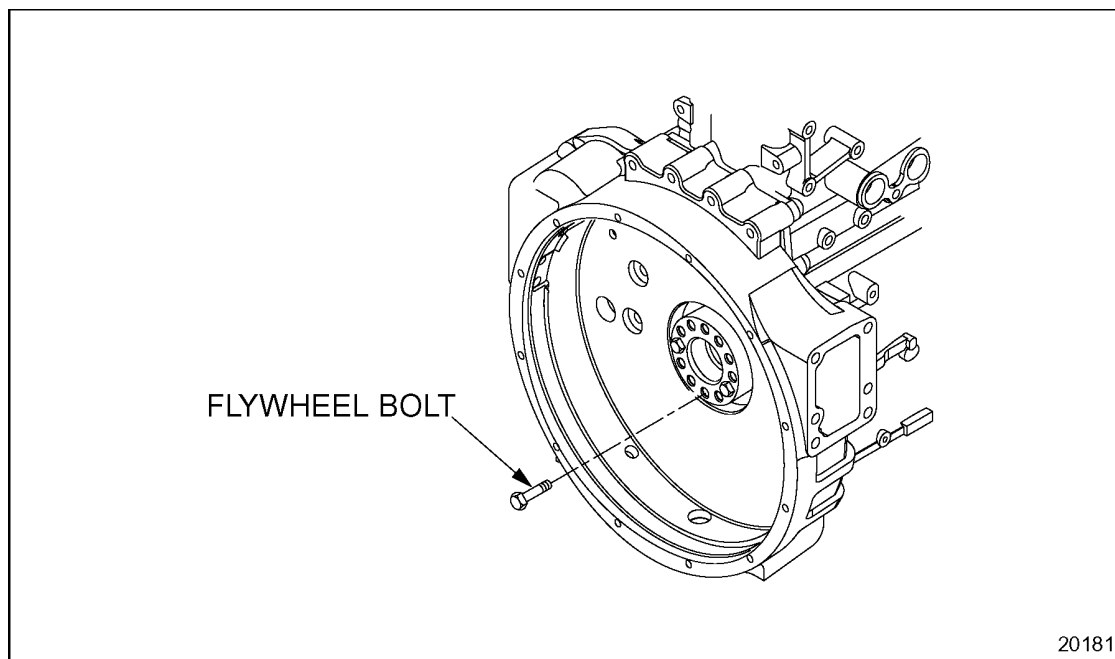

Figure 1-213 Flywheel Bolt Preparation
6. Apply International Compound #2[®] (or equivalent) to the threads and to the bolt head contact area (underside) of the remaining bolts. The bolt threads must be completely filled with International Compound #2[®] (or equivalent). Any excess must be wiped off. See Figure 1-213.